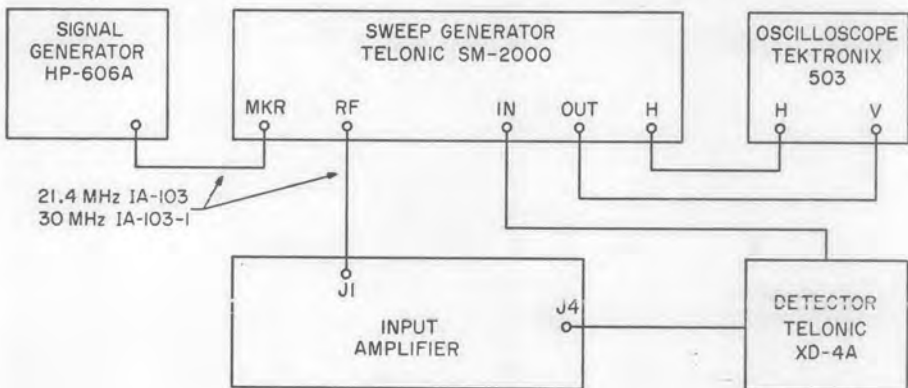

Figure 5-1. Input Amplifier Alignment Test Setup.
- (1) With the signal display unit installed in an associated receiver main chassis or signal display unit panel adapter, turn the equipment on its side and remove chassis bottom dust cover.
- (2) Remove P3 from J1 and P9 from J4 on input amplifier circuit board and connect test equipment as shown in Figure 5-1.